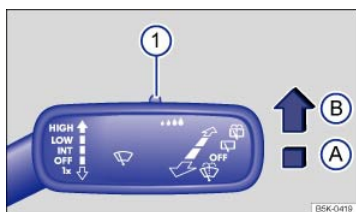

Fig. 97 Windshield wiper lever: Adjusting the rain sensor ① (if equipped).
The rain sensor's sensitivity can be adjusted manually ⇒ Fig. 97① ⇒ .